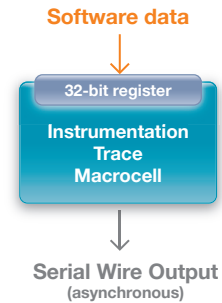

Fig. 1: CoreSight Instrumentation Trace over Serial Wire Output
2. The ITM makes the information visible either directly over the *Serial Wire Output* (see Fig. 1) or together with other trace data over the *CoreSight Trace Port Interface Unit (TPIU)*.